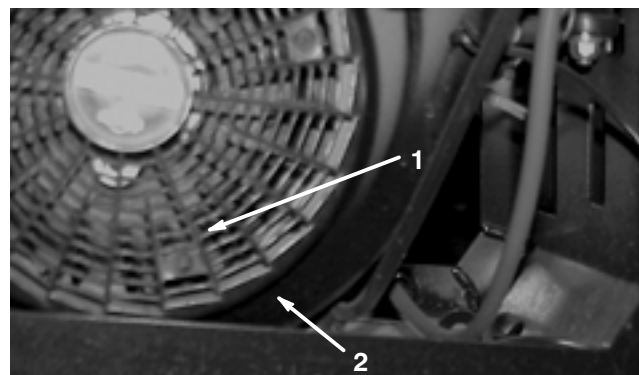

Figure 11
3. Clean rotating screen and blower housing of dirt and debris. Remove screen and housing if necessary (Fig.11).